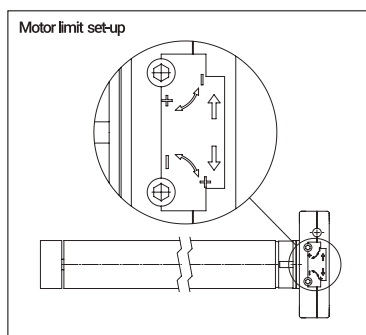

Figure 17
- 9.1 Limit switch adjustment. (see *Figure 17*).